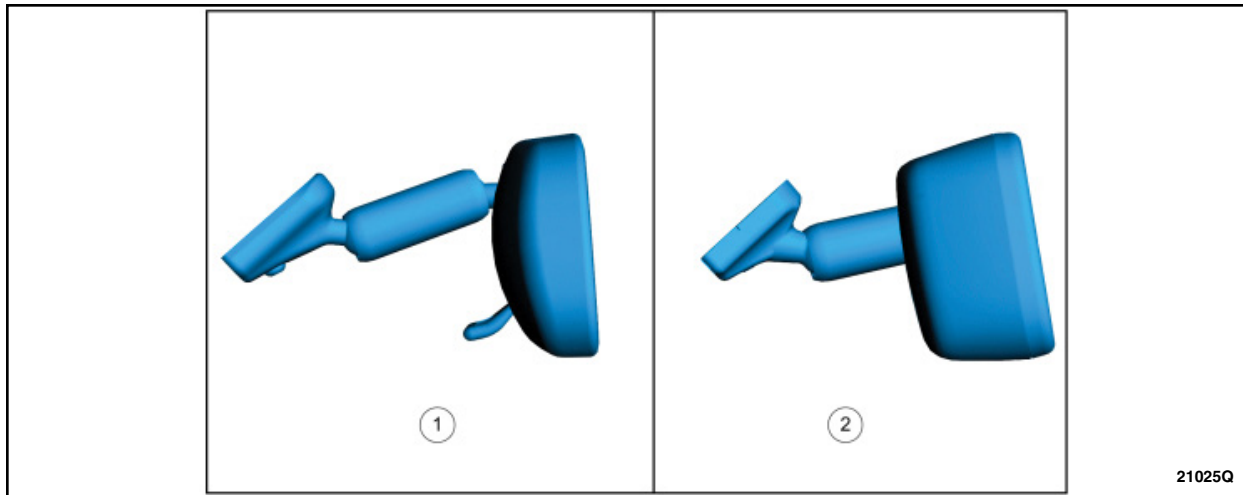

FIGURE 8
8. Mirror Types. See Figure 8.